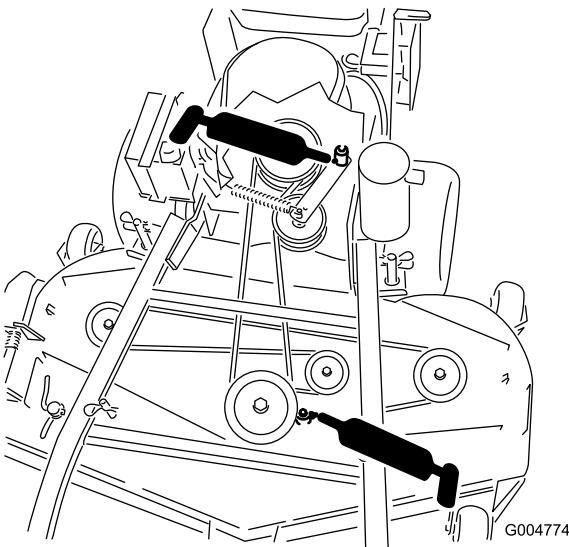
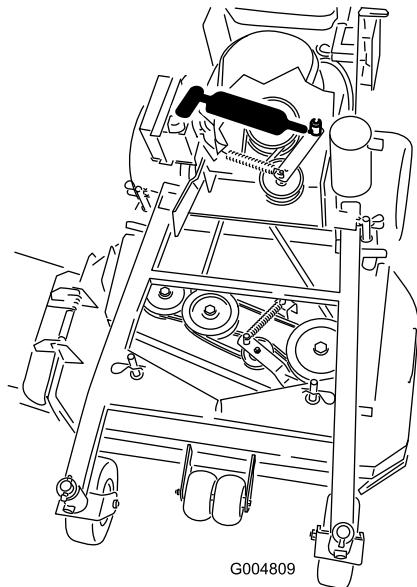

Figure 2
Figure 3
2. Check the mower belt idler arm for grease (Figure 2 or Figure 3).